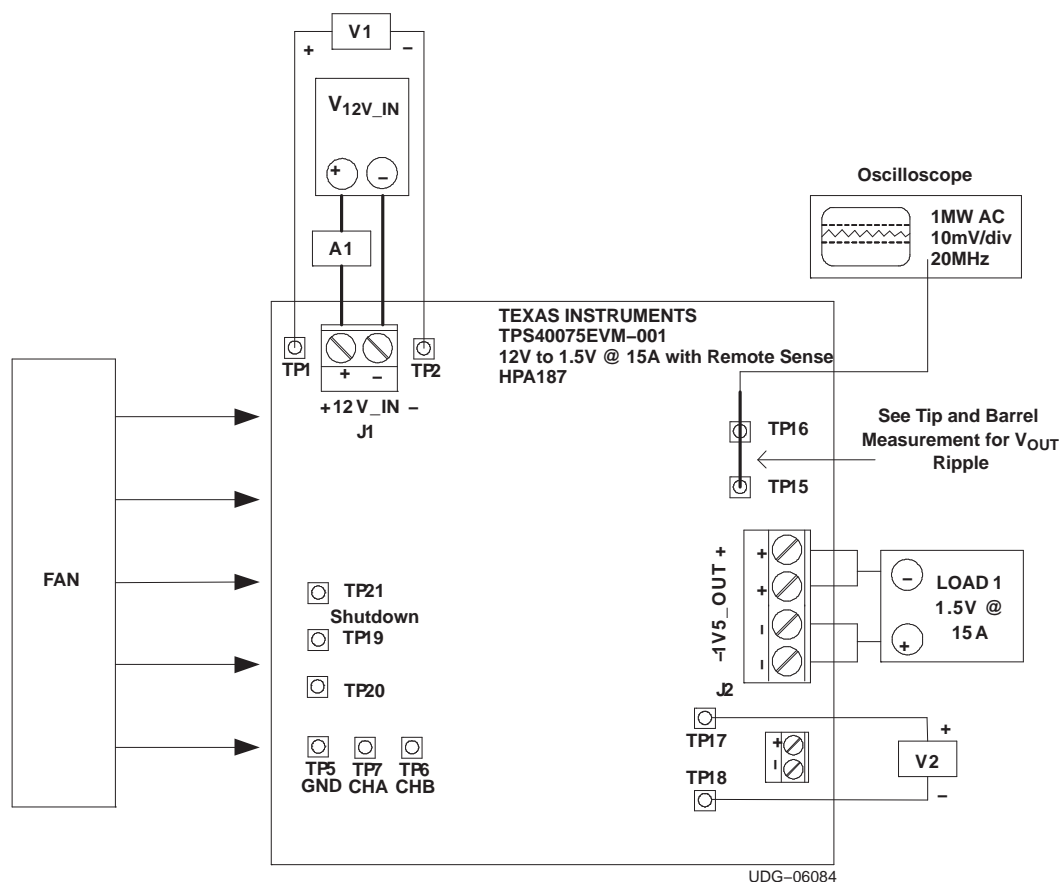
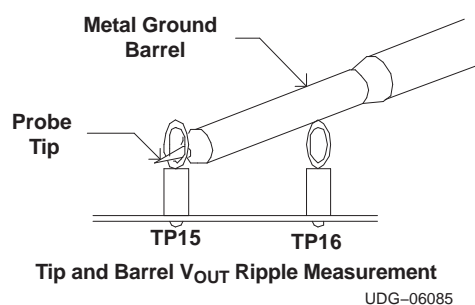

Figure 2. TPS40075EVM-001 Recommended Test Set-Up
Figure 3. Output Ripple Measurement – Tip and Barrel using TP15 and TP16
The input voltage source (V_{12V_IN}) should be a variable DC source between 0 V and 15 V, and capable of 5 A_{DC}. Connect V_{12V_IN} to J1 as shown in Figure 3.
A 60 MHz or faster oscilloscope can be used to determine the ripple voltage on 1V5_OUT. The oscilloscope should be set for 1 M Ω impedance, AC coupling, 1 μ s/division horizontal resolution, 20 mV/division vertical resolution for taking output ripple measurements. TP15 and TP16 can be used to measure the output ripple voltage by placing the oscilloscope probe tip through TP15 and holding the ground barrel to TP16 as shown in Figure 3. For a hands free approach, the loop in TP16 can be cut and opened to cradle the probe barrel. Using a leaded ground connection may induce additional noise due to the large ground loop area.
Shown in Figure 3 is the basic test set up recommended to evaluate the TPS40075EVM-001. Note that although the return for J1 and J2 are the same, the connections should remain separate as shown in Figure 2.
2. Prior to connecting the DC input source, V_{12V_IN} , it is advisable to limit the source current from V_{12V_IN} to 5.0A maximum. Make sure V_{12V_IN} is initially set to 0V and connected as shown in Figure 2.
3. Connect the ammeter A1 (0–5A range) between V_{12V_IN} and J1 as shown in Figure 2.
4. Connect voltmeter V1 to TP1 and TP2 as shown in Figure 2.
6. Connect voltmeter, V2 across TP17 and TP18 as shown in Figure 2.
7. Connect Oscilloscope probe to TP16 and TP15 as shown in Figure 3.
8. Place Fan as shown in Figure 2. and turn on, making sure air is flowing across the EVM.
Table 3 lists the EVM components as configured according to the schematic shown in Figure 1 and Figure 2.